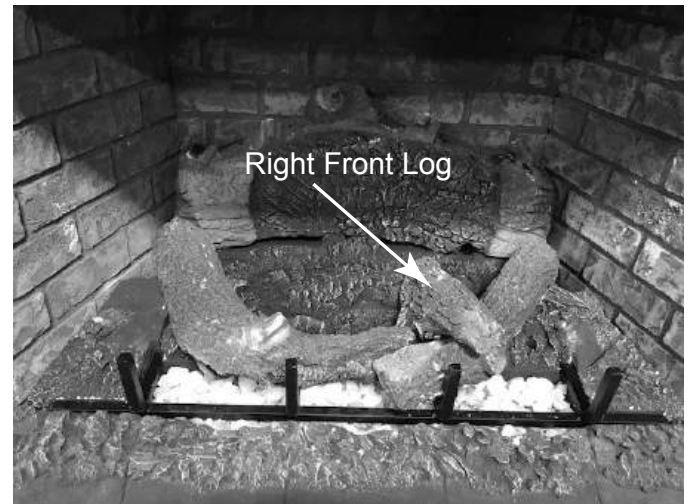

Figure 11.17
- Locate the right front log by placing the notch on bottom of right front log on to the locating point on burner top. See Figure 11.17.